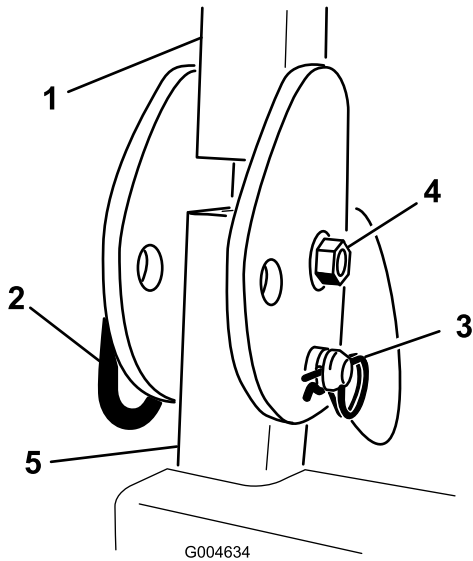

Figure 57
1. Remove the bolt, nut, hair pin cotter and pin securing each ROPS assembly to the ROPS posts (Figure 57). Remove the ROPS assembly.